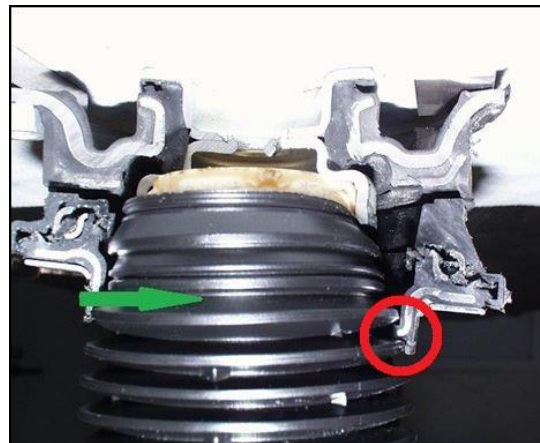

Figure 3. Improper installation of the front shock protective cover.
- Improperly-installed front shock protective covers will not turn in the deep-groove ball bearings (Figure 3).